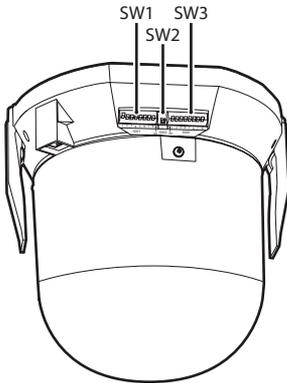
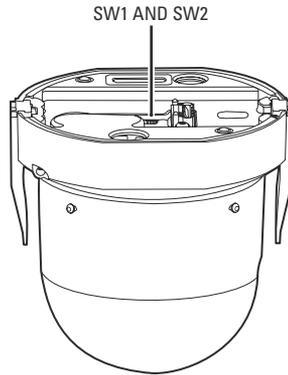

Figure 9. Spectra III Dome Drive DIP Switches
Figure 10. Spectra IV Dome Drive DIP Switches
7. Set the DIP switches on the Spectra III/Spectra IV system (refer to Figure 9 and Figure 10 on page 13 for switch locations):